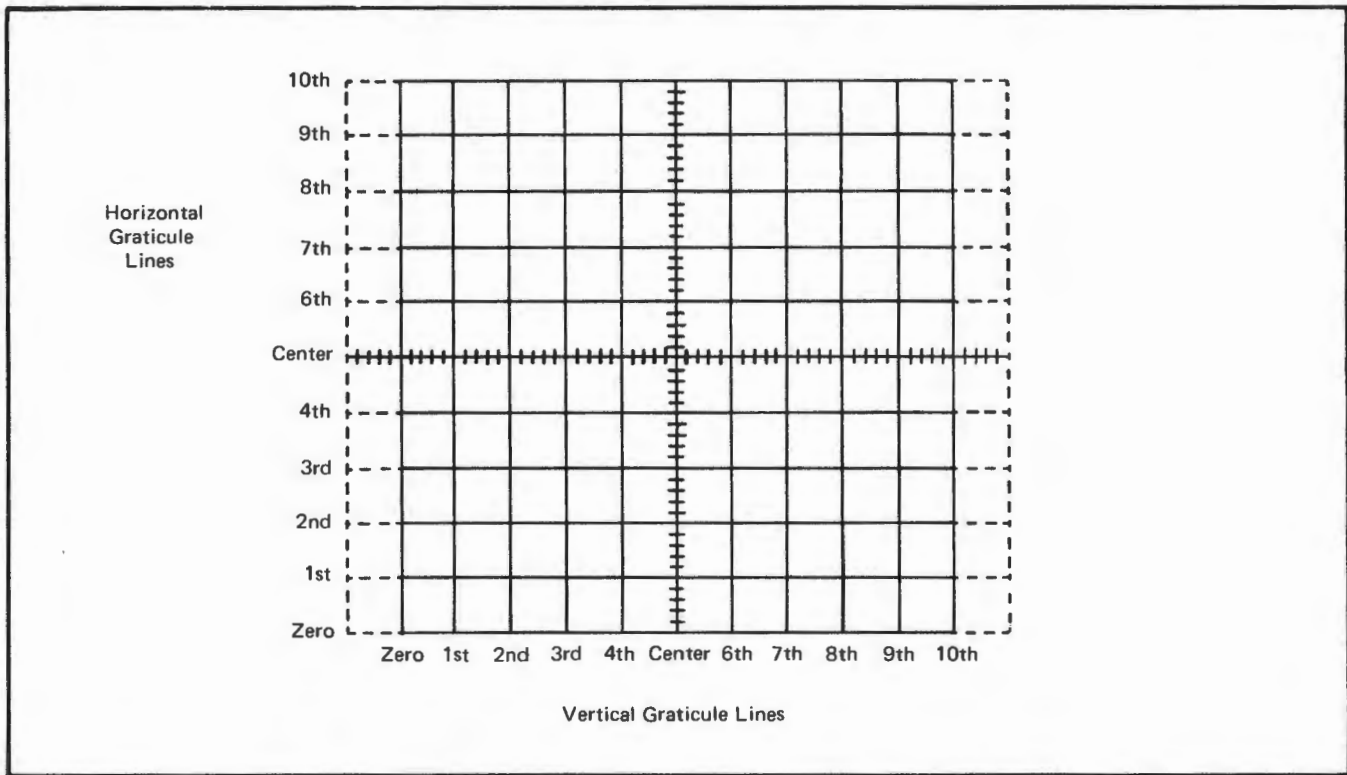

Fig. 5-5. Graticule line labels.
g. Check for the trace parallel with the horizontal centerline (see Fig. 5-5).
j. Check for trace parallel with the vertical centerline (see Fig. 5-5).
l. Using the Type 576 horizontal POSITION switch, position the trace on the zero vertical graticule line of the CRT (see Fig. 5-5).
n. Position the trace to the tenth vertical graticule line (see Fig. 5-5).
r. Using the Type 576 vertical POSITION switch, position the trace to the zero horizontal graticule line (see Fig. 5-5).